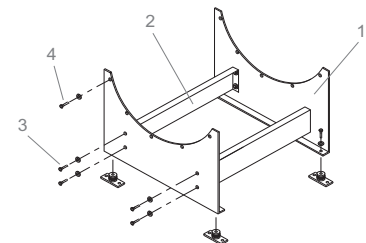

Figure 1. Support frame for ACN
Support frames for the ACN-ACW-ARN consist of two mounting plates. See fig. 1, item 01.